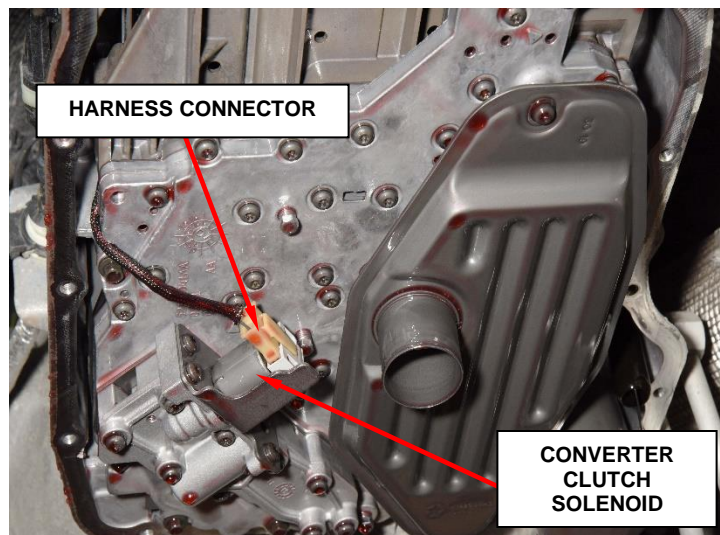

Figure 12 – Electrical Wiring Harness Connector
22. Reconnect the electrical wiring harness connector back onto the torque converter clutch solenoid by grasping ensuring it is fully connected with a gentle push-pull-push test (Figure 12).